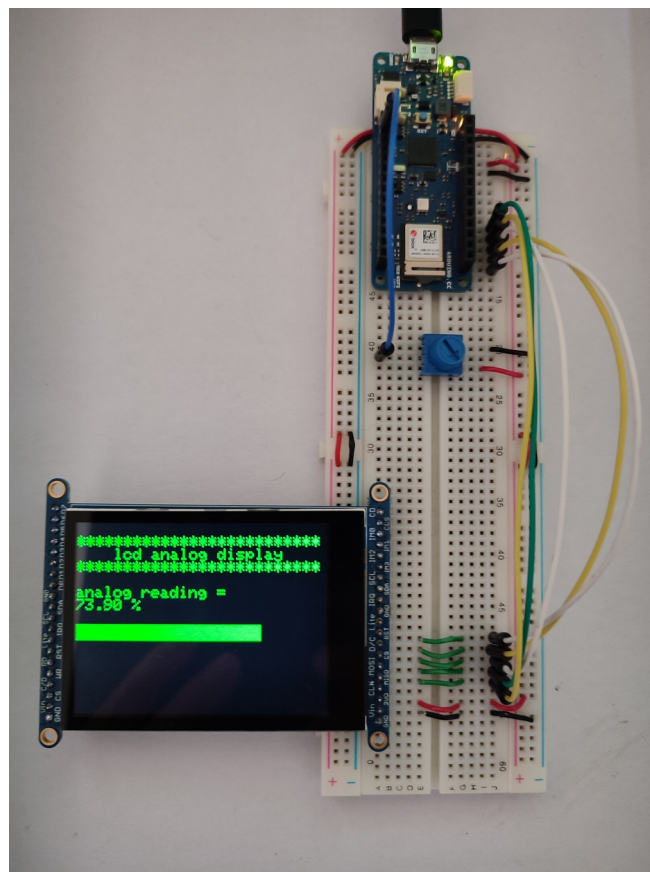

Figure 10 – An example bar graph display on the Arduino MKR WiFi 1010 and Adafruit 2.8" TFT display
- Try outputting the potentiometer values to the LCD screen as a bar graph. You should look to scaling the potentiometer values and using them to create a rectangle5. I would **highly** recommend using pseudocode or other algorithm design methodologies before actually writing the code! Figure 10 shows an example of what this might look like.